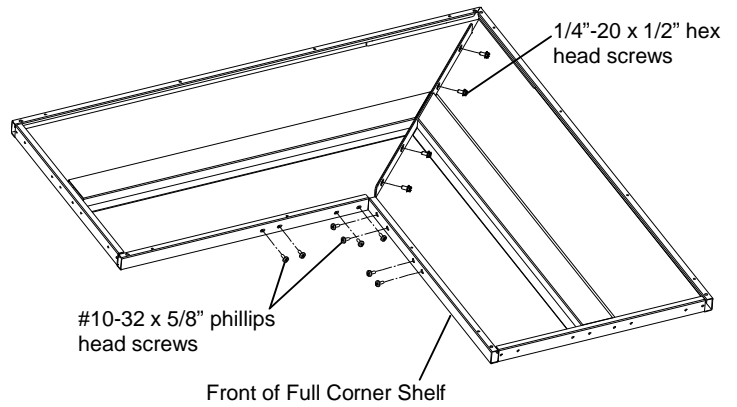

Figure 6
8. Install eight #10-32 x 5/8” long phillips head screws with plastic washers (provided) to the front of the Corner Shelf to secure the Stiffener. See figure 6.